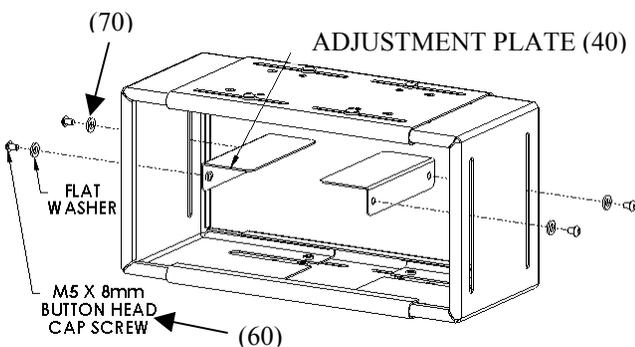

Figure 5. Install Adjustment Plates
1. Install two flat washers (70) and two M5 X 8mm button head cap screws (60) into the threaded holes in the side plates (30). See Figure 5.